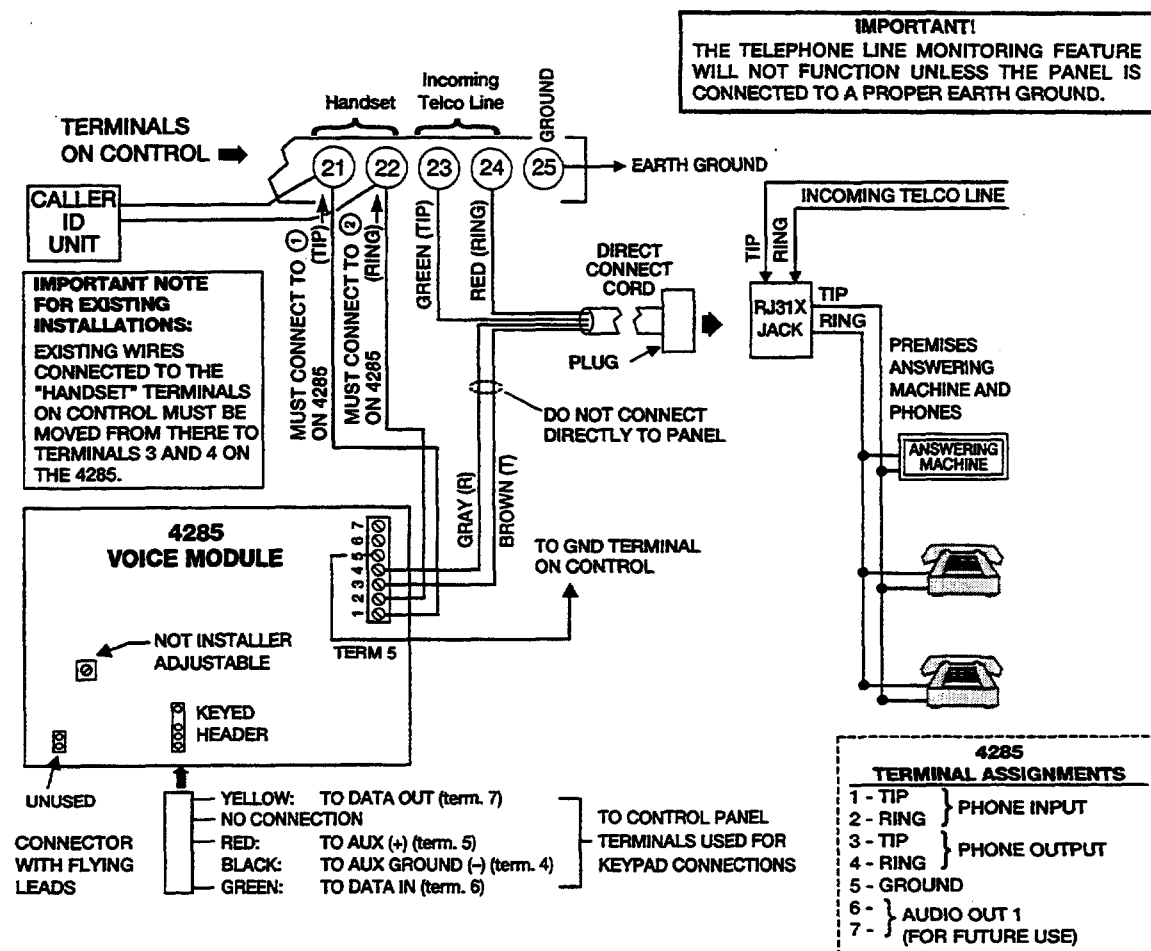

Figure 16. 4285 Voice Module Wiring Connections
1. Make 12V (+) and (-) and data in and data out connections from the Voice Module to the control, using the connector cable supplied with the Voice Module (see Figure 16).